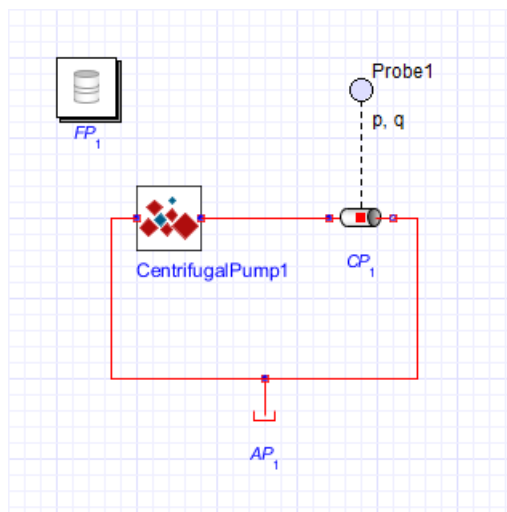

Figure 6.10: Centrifugal Pump Custom Component
12. Drag the custom component into the **Model Workspace** and create the model shown in **Figure 6.10** using the specified model components and their settings from **Table 6.5**.